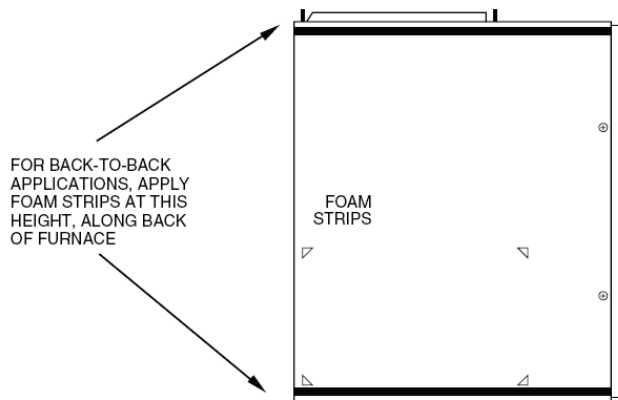

Fig. 6 - Location of Foam Strips
3. Apply two factory-supplied foam strips to mating side of one furnace. Locate strips equal distance from top and bottom as shown in Fig. 6.
3. Each piece of angle iron must be secured to the bottom of each furnace with at least two (2) No. 8 x 3/4-in. (19 mm) sheet metal screws.
7. Apply two factory-supplied foam strips to the back of each furnace. Locate strips equal distance from top and bottom as shown in Fig. 6. Trim off excess material.